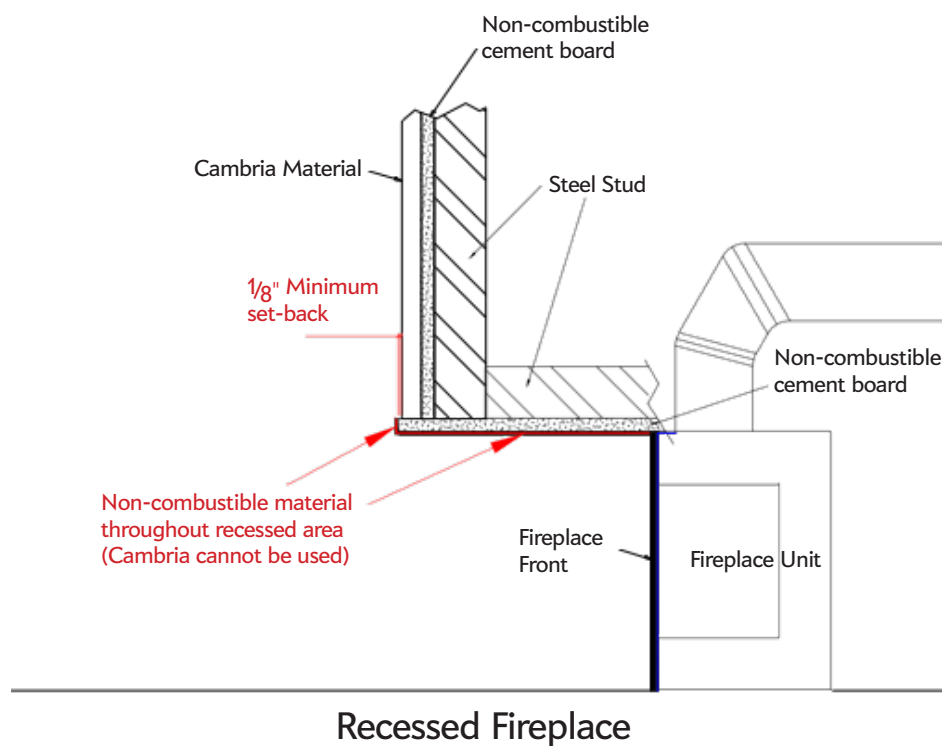

Figure 4
11. When a recessed fireplace is used, the recess must be constructed from non-combustible materials—NOT Cambria. The space between the outside framing edge and the firebox must be completely free of any obstruction or debris and the window, with trim fitted, must be able to move freely. No building material is permitted to protrude past the framing edges attached to the fireplace under ANY circumstance. See **Figure 4**.